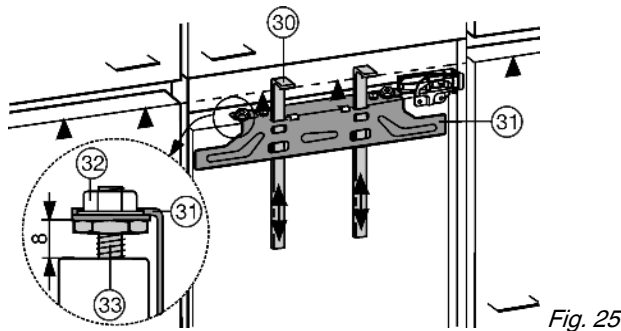
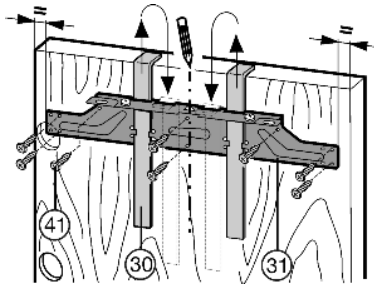

Fig. 25
Fig. 26
The fitting aids Fig. 25 (30) are required for both doors. Therefore fit the doors of the units one after the other.
- ▶ Raise fitting aids Fig. 25 (30) to unit door height. Lower edge ▲ of fitting aid = upper edge of unit door to be fitted.
- ▶ Unscrew crosspiece Fig. 26 (31) by undoing the locknuts Fig. 25 (32).
- ▶ Attach the crosspiece Fig. 26 (31) to the inside of the unit door using the fitting aids Fig. 26 (30).
- ▶ Centre the crosspiece Fig. 26 (31); mark a short centre line on the unit door and put the tip of the arrow on the crosspiece above it.
- ▶ fix the crosspiece Fig. 26 (31) with at least 6 screws Fig. 26 (41).
- ▶ fix the crosspiece Fig. 26 (31) with 4 screws Fig. 26 (41) at the edge.
- ▶ Lift out the fitting aids Fig. 26 (30), turn round and insert into the adjacent openings.